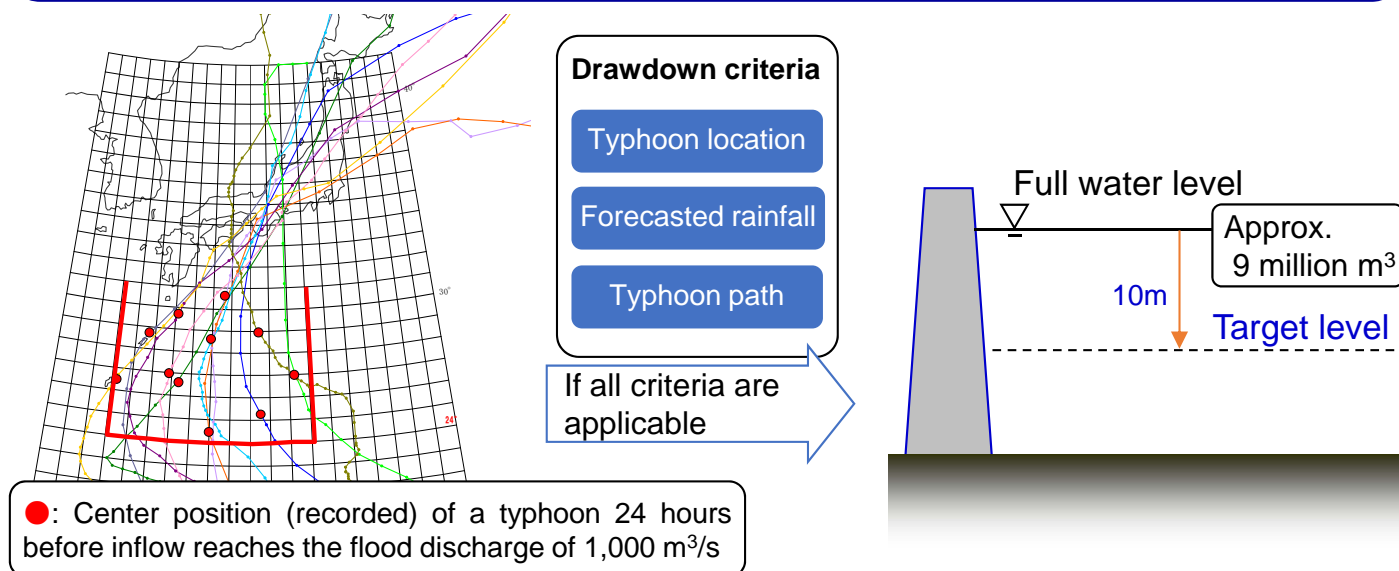

Fig.4-2 Sarutani Dam
- Sarutani Dam in Nara Pref.(Fig.4-2)